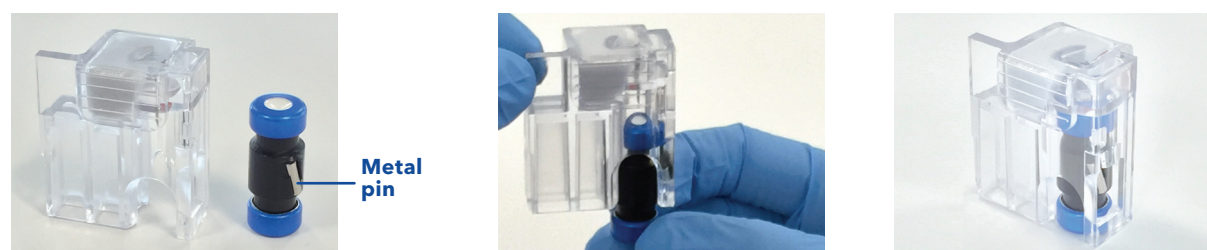

FIGURE 1. Assembling the Top Running Buffer vial in the cartridge insert. Keep the cartridge insert in an upright position after the vial is inside it.
3. Fetch a fresh vial of Top Running Buffer from 2–8 °C and slide the Top Running Buffer vial into the cartridge insert so that the metal pin on the side of the vial is facing out. Press the vial up until it is completely inside the cartridge insert as shown in FIGURE 1.